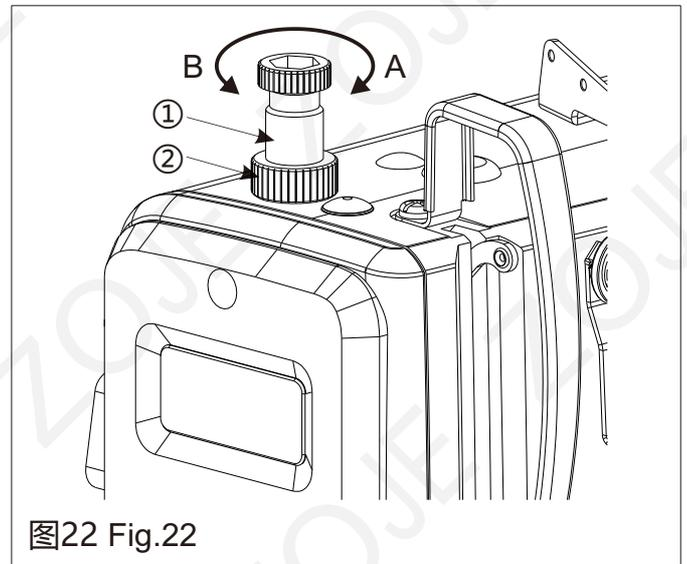

图22 Fig.22
- 1) 上图标样(见图22)可根据不同的缝纫工序需求进行增或减的微调整,但应注意不要增加或减少过多。油量过少时会引起旋梭发热,油量过多时会污染缝料。
- 1) The guide sample shown in the right-hand figure(see Fig. 22) may be finely adjusted (increased or reduced) as per different sewing processes; however, excessive increase or reduction shall be avoided. Too little oil mass may lead to rotating hook heating, and over much oil mass may lead to contamination of the sewing materials.
18 压脚压力的调节 (图22) Adjusting the Presser Foot Pressure(Fig. 22)